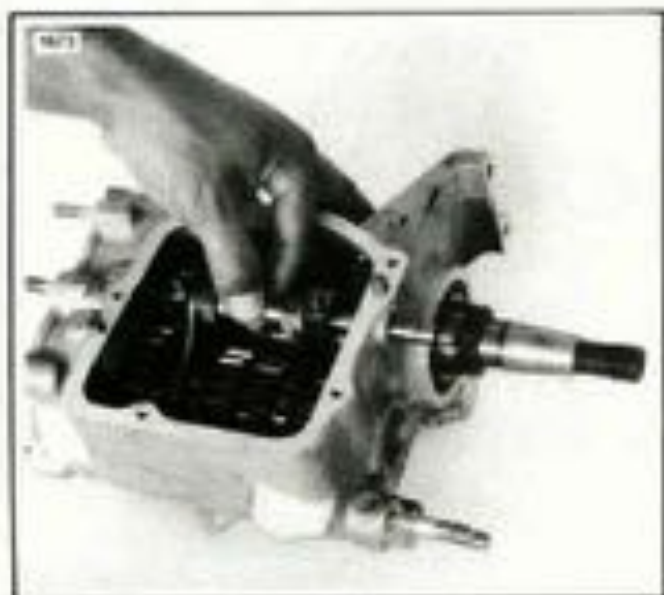

Figure 7-25. Fork Assembly in Transmission
5. See Figure 7-25. Remove the lock ring from the end of the fork shaft. Tap the shaft out of the sprocket side of the transmission.
3. See Figure 7-25. Place the fork assemblies into the transmission as shown. Install the narrow fork on the mainshaft shifter clutch. Install the shaft and lock ring.